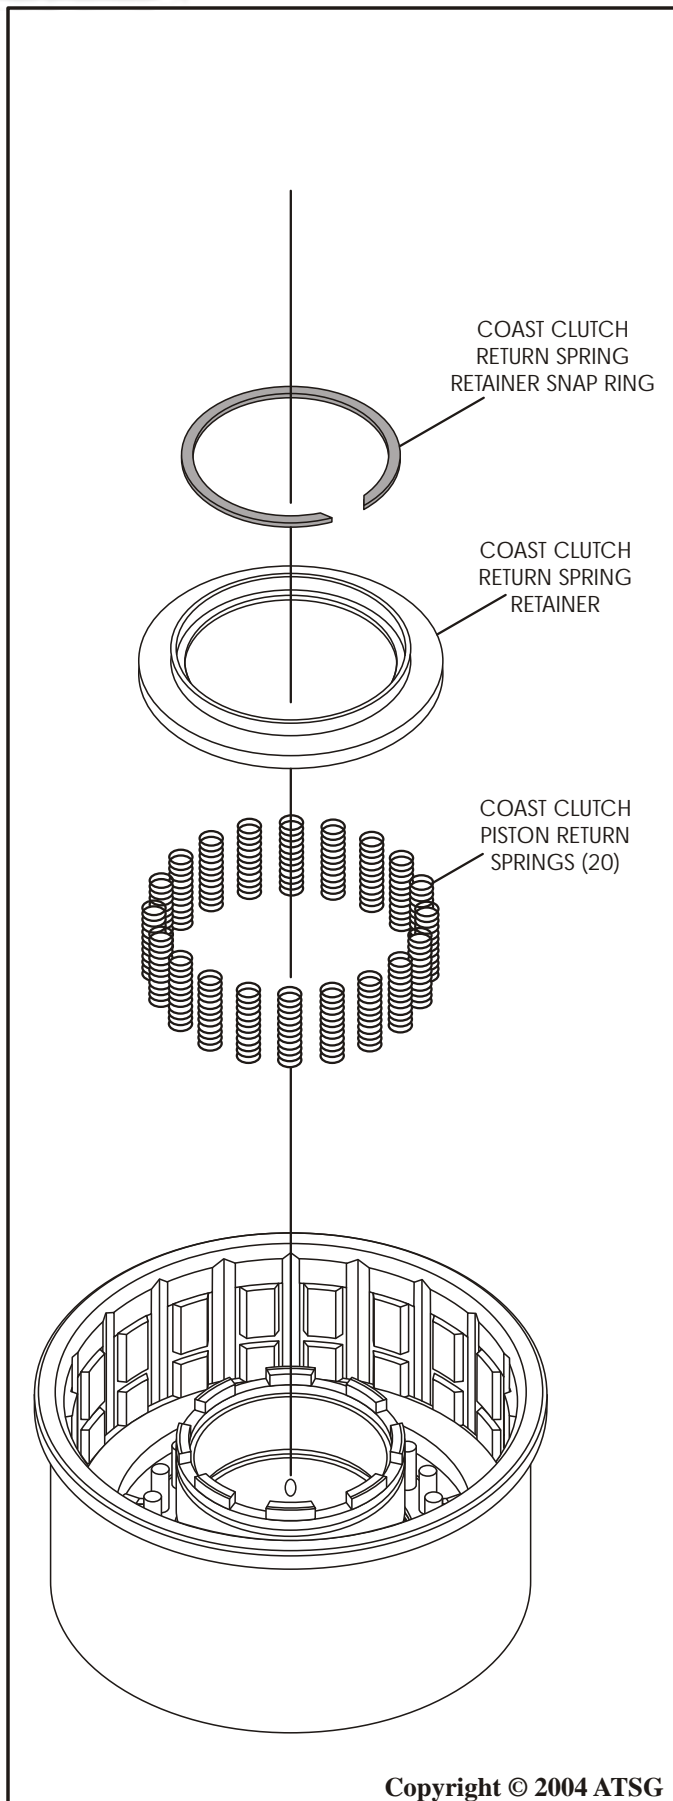

Figure 69
10. Install the coast clutch piston return springs on the coast clutch piston, as shown in Figure 69.
11. Install the coast clutch return spring retainer on top of return springs, as shown in Figure 69.
12. Carefully compress the retainer and the return springs and install the retaining snap ring, as shown in Figure 69.